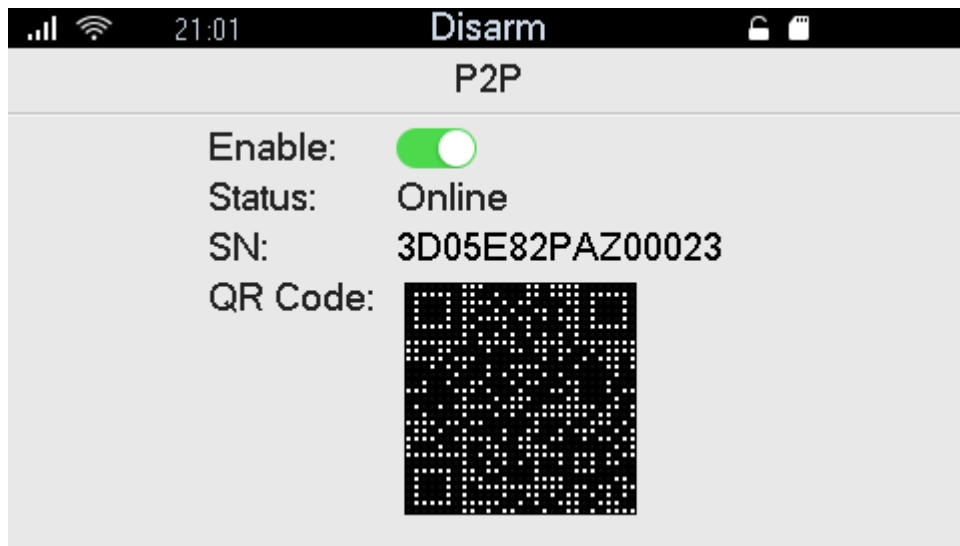

Figure 4-11
Step 4 Press [OK] to enable or disable P2P function, as shown in Figure 4-11. After enabling P2P function, you can scan QR code with APP or directly enter SN to add device and access management device. Please refer to relevant user's manual for details.